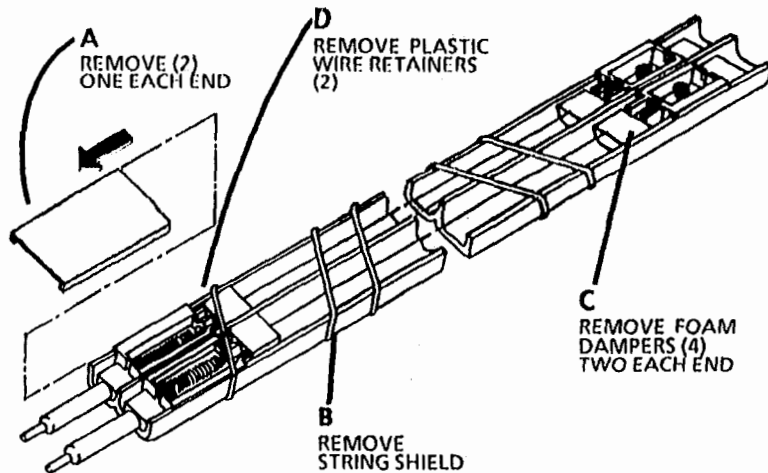

Figure 1. Prepare to Remove Corotron Wire
2. (Figure 1): Prepare to remove the corotron wires.